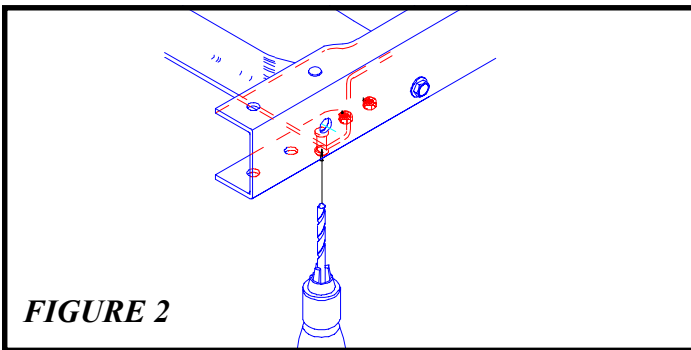

FIGURE 2
- b. Using a 3/8" drill bit, drill 5/16" deep into the head of the rivet as shown in **figure 2**.